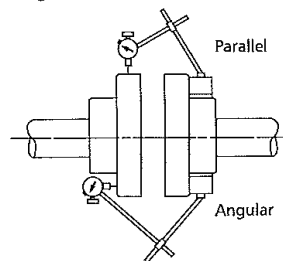

Figure 6
- 5.2.1. Even though the pump-motor unit may have a factory alignment, this could be disturbed in transit and must be checked prior to running. See Figure 6.